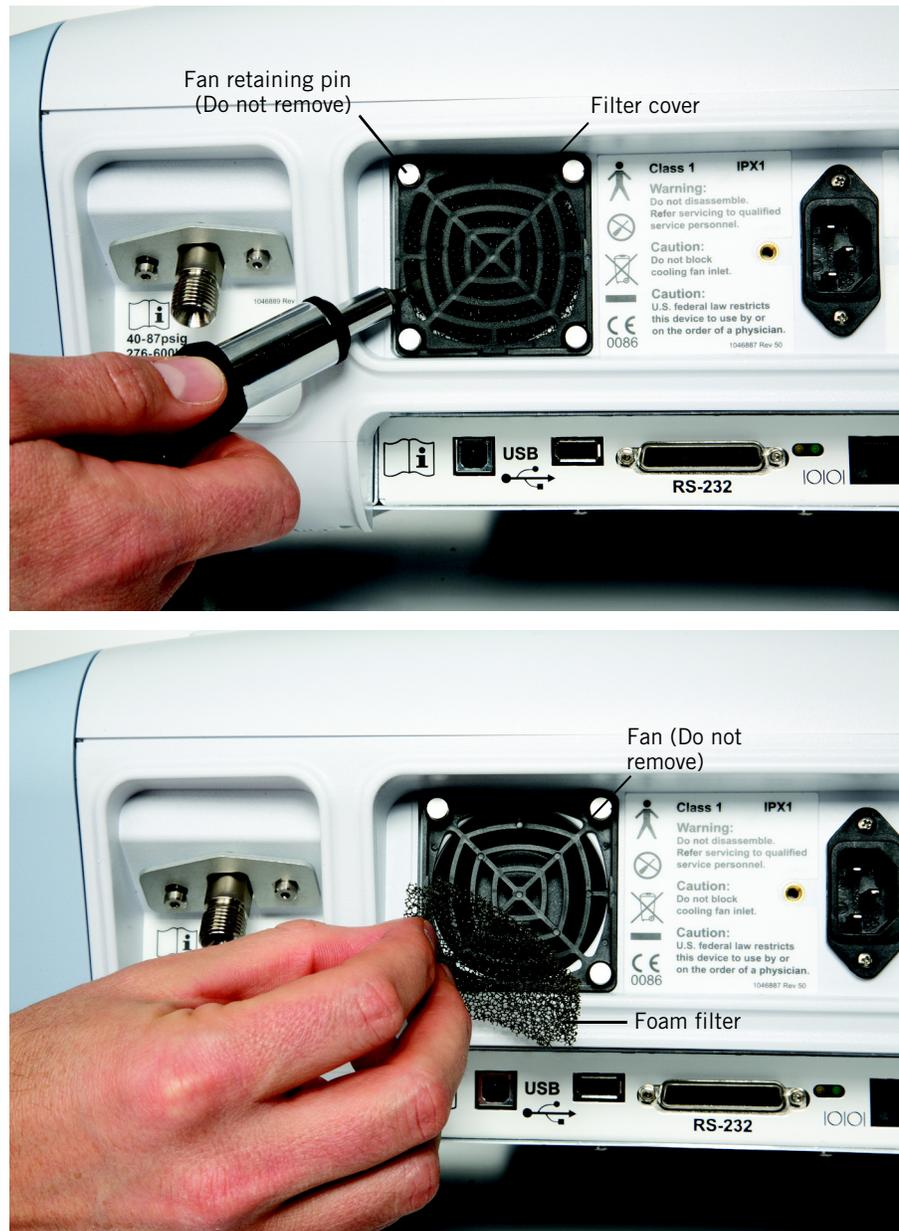

Figure 10-2: Replacing the cooling fan filter
Clean or replace the cooling fan filter as follows, referring to Figure 10-2:
1. Insert a small, flat blade driver tip between the foam filter and the filter retaining cover (Figure 10-2).